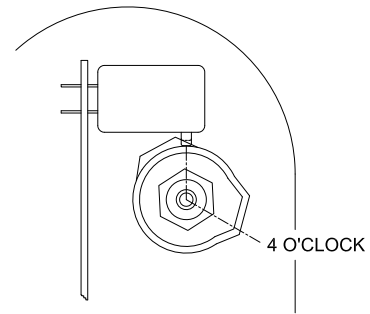

Figure 1
4. Verify the cam location on the upper cam is set just short of the four o'clock position with respect to the switch plunger being the twelve o'clock reference position. If it is beyond the four o'clock position, use a deep well 1/2" hex socket or nut driver and manually rotate the cam counterclockwise a few clicks, as required, to obtain the correct starting position. (Refer to Figure 1.)